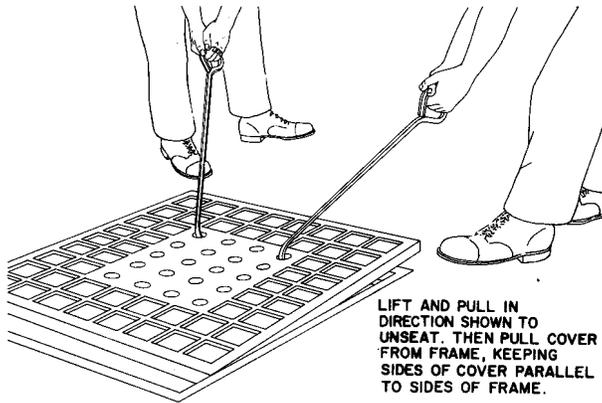

Fig. 18—Removing Rectangular Cover
3.12 When removing rectangular type covers, other than the hinged type, two workmen should insert their manhole hooks in the vent holes located along the narrow edge of the cover on the side toward which they wish to pull the cover. Both workmen then lift and pull slightly toward themselves to unseat the cover (Fig. 18). Having unseated the cover, they then pull from the narrow side and remove the cover from the frame. In removing a rectangular cover, care should be exercised to keep the edges of the cover parallel to the sides of the frame while sliding the cover along the frame seat in order to avoid dropping the cover into the manhole.